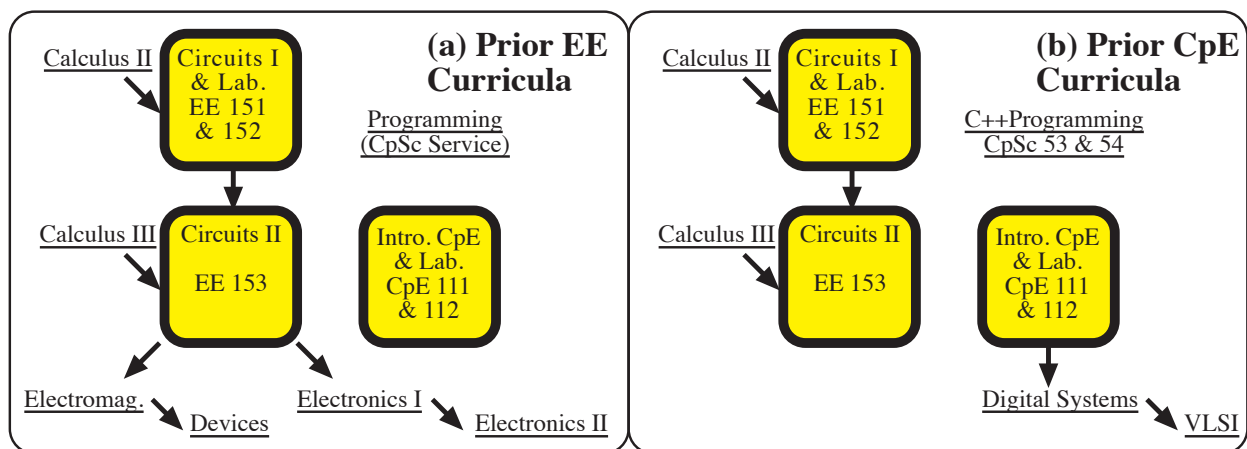

Figure 1. Selected Required Courses for (a) EE Majors and (b) CpE Majors in Prior Curricula
Selected courses in the prior curricula for B.S. degrees in electrical engineering (EE) and computer engineering (CpE) are shown in Figure 1. Although the degrees were offered within the same department, the EE degree requirements and the CpE degree requirements had limited overlap. Common in-department requirements were limited to basic circuit analysis and computer engineering content, i.e. Circuits I EE 151, Circuits II EE 153, and Introduction to Computer Engineering CpE 111, and associated laboratories. (The EE and CpE course numbers are designated such that the first digit refers to the year, e.g. 1XX course for sophomore level; the second digit for the area, e.g. 12X for devices and 15X for circuits; and the last digit for the specific course.) Prerequisites for many upper-level courses in EE made it difficult for CpE students to cross over and vice versa for EE students wanting CpE courses. New elective courses tended to be developed for either EE majors or for CpE majors.